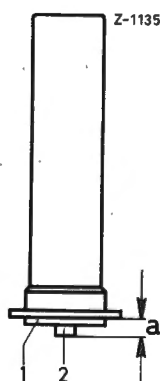

Fig. 00-15/1
If a thermostat is defective, the working pin (2) does not project sufficiently (and can be easily pressed in) so that the engine receives too much fuel when warm (Fig. 00-15/1). The result is high
Another check can be made on the thermostat itself. Measure the dimension "a" with a load of 3 kg on the working pin (2) and at a temperature of 20° C; "a" should be 6 ± 0.08 mm (Fig. 00-15/1).